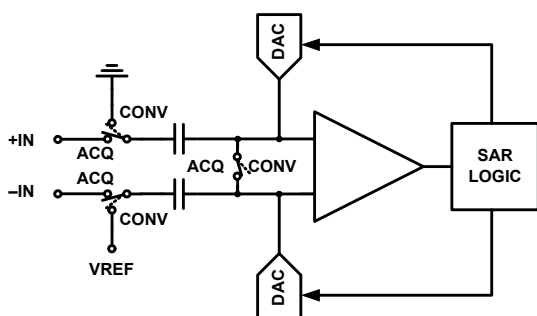

FIGURE 25. SAR ADC ARCHITECTURAL BLOCK DIAGRAM
The ISL267817 is based on a successive approximation register (SAR) architecture utilizing capacitive charge redistribution digital to analog converters (DACs). Figure 25 shows a simplified representation of the converter. During the acquisition phase (ACQ), the differential input is stored on the sampling capacitors (CS). The comparator is in a balanced state since the switch across its inputs is closed. The signal is fully acquired after t_{ACQ} has elapsed, and the switches then transition to the conversion phase (CONV) so the stored voltage may be converted to digital format. The comparator will become unbalanced when the differential switch opens and the input switches transition (assuming that the stored voltage is not exactly at mid-scale). The comparator output reflects whether the stored voltage is above or below mid-scale, which sets the value of the MSB. The SAR logic then forces the capacitive DACs to adjust up or down by one quarter of full-scale by switching in binarily weighted capacitors. Again, the comparator output reflects whether the stored voltage is above or below the new value, setting the value of the next lowest bit. This process repeats until all 12 bits have been resolved.